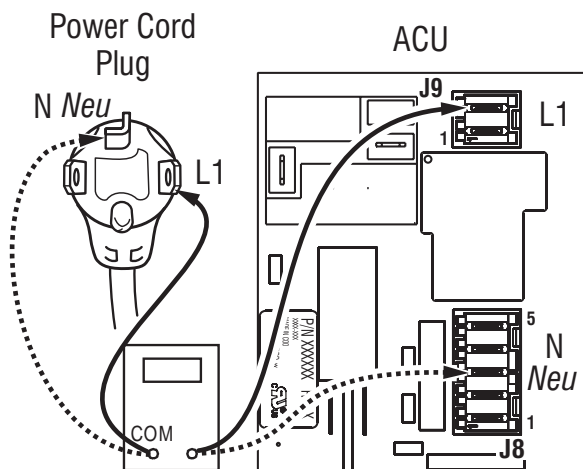

Figure 3 - Plug-to-terminal connections for electric dryer
4. With an ohmmeter, check the continuity from L1 and N plug terminals of the power cord to the terminals for L1 and N on the ACU. See figure 3, page 3-11.